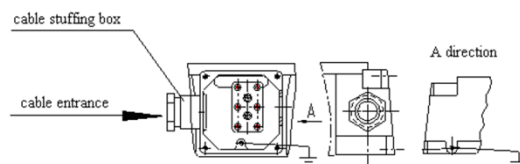

Fig. 4
The motor can be connected in star(Y) or delta(Δ) connection. Please see fig. 4 for standard thruster version and version with heater.